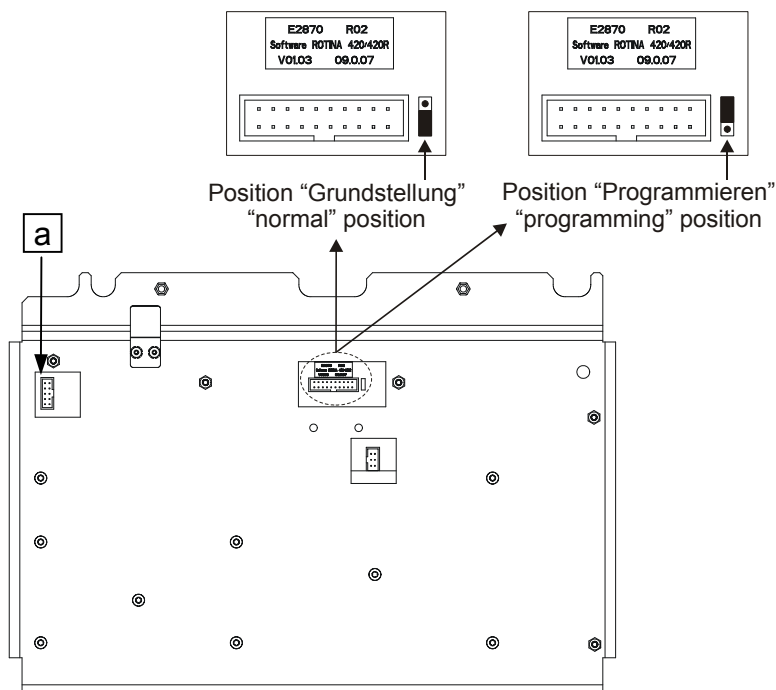

Fig. 1
2. Plug the jumper on the electronics (A1) at position "programming", see Fig. 1.
3. Plug on the interface cable on the electronics (A1), see Fig. 1, a.
16. Plug the jumper on the electronics (A1) again at position "normal position", see Fig. 1.